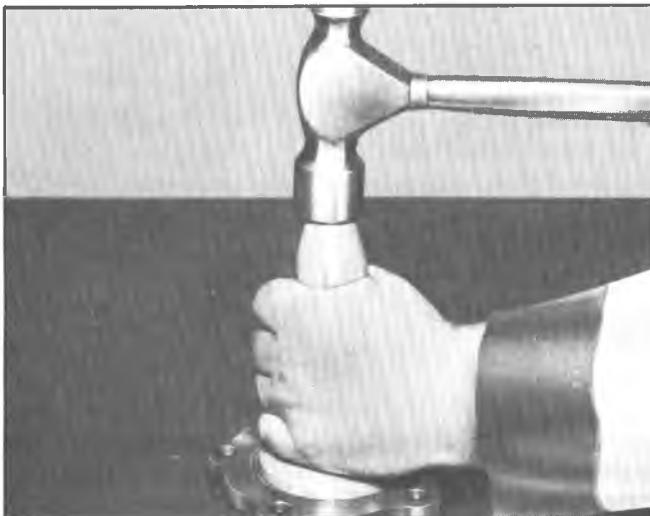

Fig. 4G—Pinion Oil Seal Installation
2. Press the oil seal into the retainer. Position seal lips toward the pinion bearing, using Tool J-22281 as shown in Figure 4G.